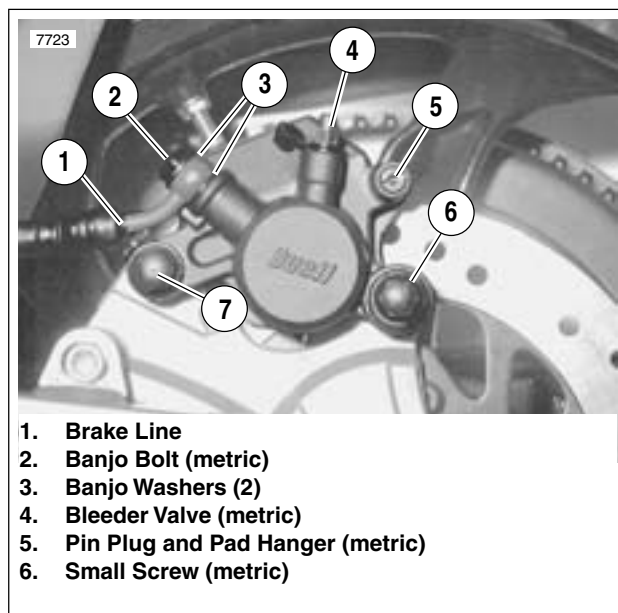
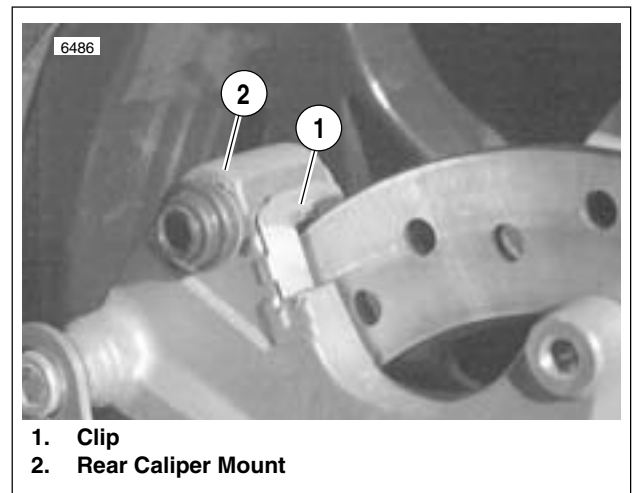

Figure 2-47. Rear Brake Caliper (Typical)
Figure 2-48. Caliper Mount Clip
2. See Figure 2-47. Remove banjo bolt (2) (metric) and two banjo washers (3) to disconnect brake line (1) from caliper. Discard banjo washers.
3. Remove small screw (6) (metric) and large screw (7) (metric) to detach caliper from mount.
4. See Figure 2-48. Remove clip (1) from rear caliper mount (2) if necessary.
1. See Figure 2-47. Remove pin plug and pad hanger (5) (metric) to free brake pads.
2. See Figure 2-48. Remove clip (1) from caliper body.
1. See Figure 2-48. Install caliper mount clip (1) if removed.
2. See Figure 2-47. Install caliper assembly on caliper mount. Brake pad surfaces must face rear brake rotor.
- b. Install large caliper screw (7) (metric). Tighten to 18-22 ft-lbs (24-30 Nm)
- c. Install small caliper screw (6) (metric). Tighten to 15-18 ft-lbs (20-24 Nm).